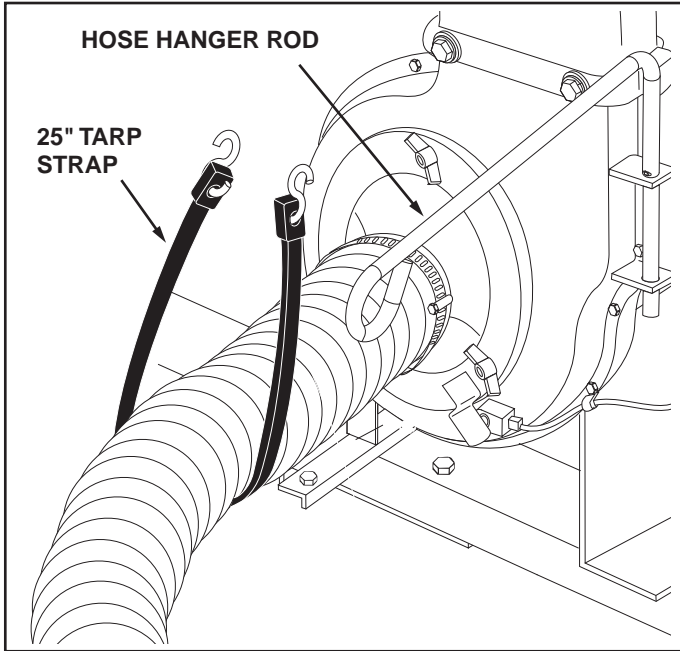

FIGURE 11
- Loop the 25" tarp strap under the hose. Fasten the hooks to the hose hanger rod. See figure 11.